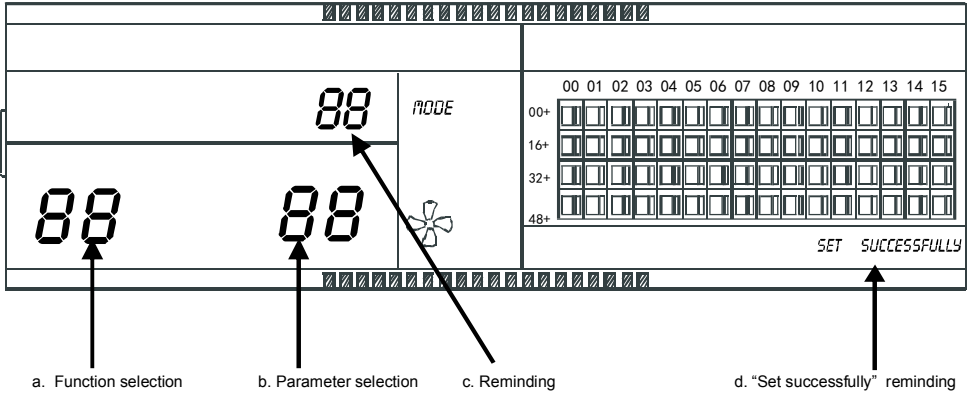

Fig 2.9 Filter net in addition to the dust function involves of show a contents
① Dial the dial code 3 to “ON”, select the “Has optional function” referring to table 2.1 to , and then power on the centralized controller, in 1 minute press “ QUIET” key and hold on then press “ FAN” key, enter to optional function setting. Dual eight represented function selection (Fig.2.9 a) will be flashed with 1Hz frequency (default display 00), display the optional function code (see table 2.2). Press “ INC” and “ DEC” keys to select function, and then press “ OK” key to enter parameter selection.
②After enter parameter selection, dual eight represented function selection will be lighted on, dual eight represented parameter selection (Fig.2.9 b) will be flashed with 1Hz frequency, display optional parameter code. Through pressing “ INC” and “ DEC” keys to select the detailed parameter.
③Press “ OK” to confirm parameter selection(details parameter codes’ corresponding time refer to table 2.3).
④After setting successfully, Dual eight represented function selection and dual eight represented function selection will be lighted on, the screen will display “Setting successfully” (Fig. 2.9 d). After 3 seconds will auto exit optional function setting. The screen will back to normal display.